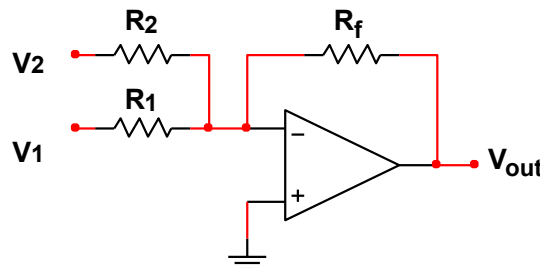

Figure 3.1 – Summing Amplifier
1. **Build the Summing Amplifier** according to your prelab design and **Figure 3.1**.
3. **Measure  $V_P$ ,  $V_N$ , and  $V_{out}$**  of the Op-Amp using the **DMM**. **Verify** that the voltage gain (K) is **-2** and  $V_{out} = -2(V_1 + V_2)$ .